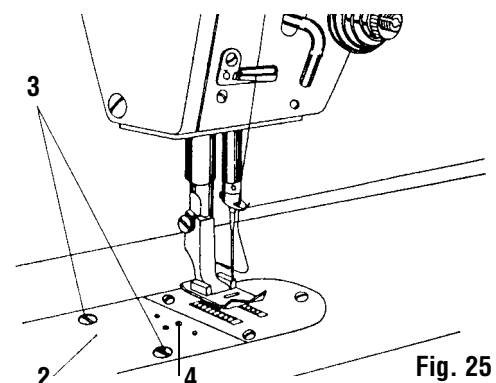

Fig. 25
28. Setting of the stationary knife pressure (Fig. 25)
31. Dismounting and mounting of the plate (Fig. 25)